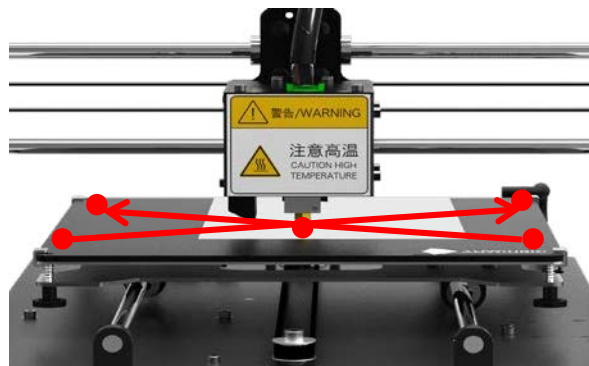

Figure 12
Step 6. Move the printing head and platform at the same time, so that the printing head can be moved in diagonal order, as shown in Fig.12. In the process of moving, check whether the distance between nozzle and printing platform is about a piece of paper thin or not. You may need to adjust the 5 points of the platform 1 or 2 times to check the leveling result.